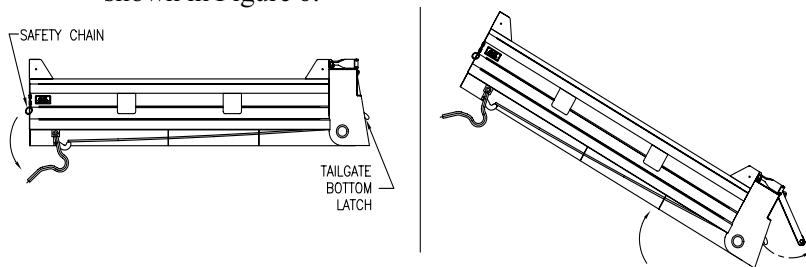

FIGURE 6
2. Rotate the handle down to release the tailgate bottom as shown in Figure 6.